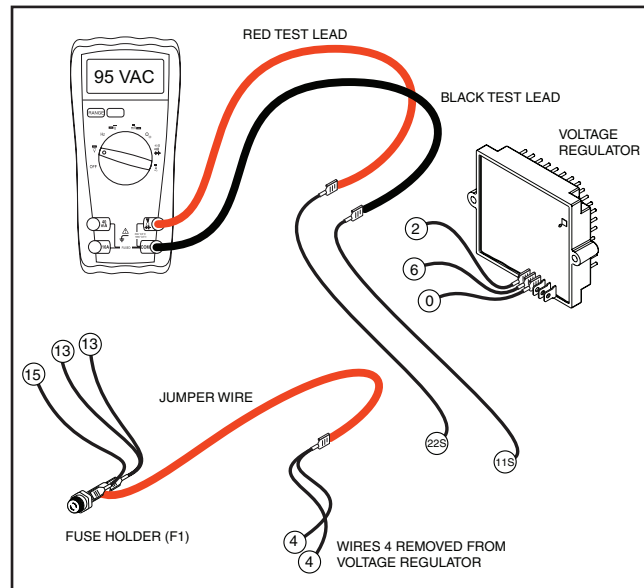

Figure 7-5. – Fixed Excitation Test, Step C
6. Disconnect Wire 11S from the Voltage Regulator (VR) and connect one meter test lead to that wire. Disconnect Wire 22S from the Voltage Regulator and connect the other meter test lead to that wire. See Figure 7-5. Start the generator and measure the AC voltage. It should be above 60 volts. Record the results and stop the generator.